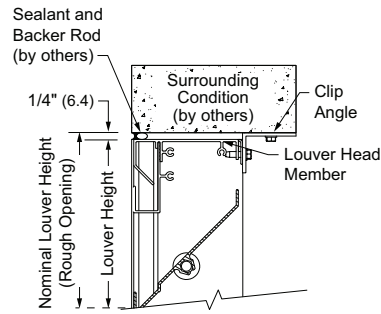

Fig. 2.2 Head
2. Place the louver section into the opening. See fig. 2.2, 2.3 and 2.4.